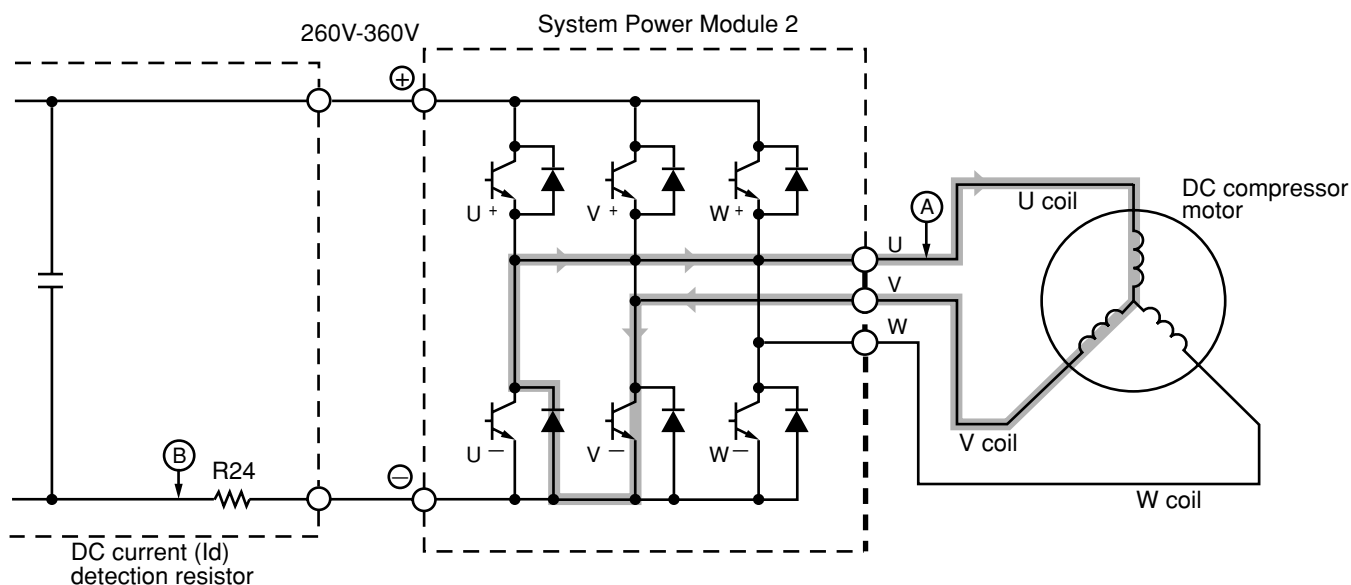

Fig. 3-4 Power module circuit (U⁺ is ON, V⁻ is ON)
- (2) When U^+ transistor is OFF: (by inductance of motor coil) U coil \rightarrow V coil \rightarrow V^- transistor \rightarrow Return diode \rightarrow Point (A) (Fig. 3-4)